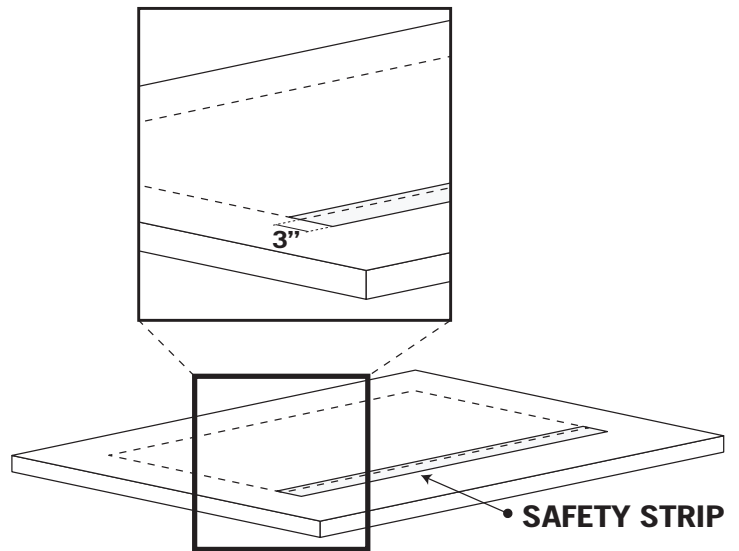

FIGURE 16.2
STEP 2 (FIGURE 16.2): Place a noncombustible safety strip (i.e., 4" galvanized flashing) so that it will protrude past the front of the riser kit a minimum of 3". Tack with nails or adhesive (not included).